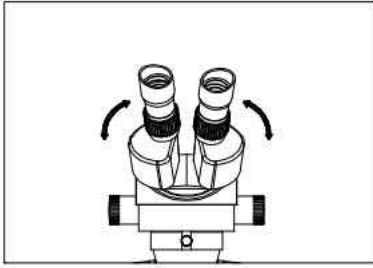

Fig.4
1) Adjust the prism housing along the direction of arrowhead of the Fig.4 till the observation is comfortable.